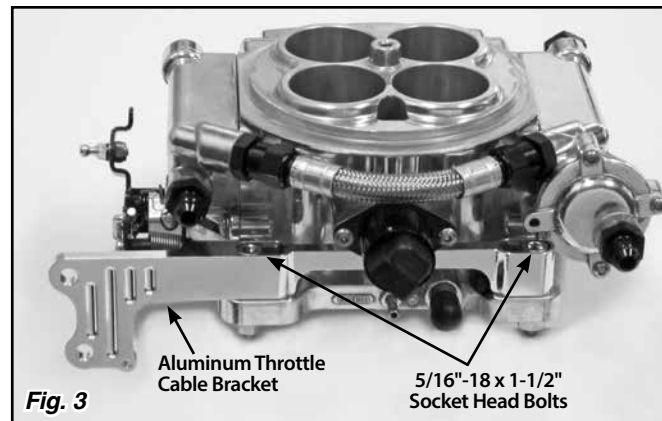

Fig. 3
Step 2: If the throttle body is already installed, remove the two mounting bolts from the rear of the throttle body. Install the aluminum throttle cable bracket onto the rear of the throttle body base using the two 5/16"-18 x 1-1/2" socket head bolts supplied with the kit. Fig. 3